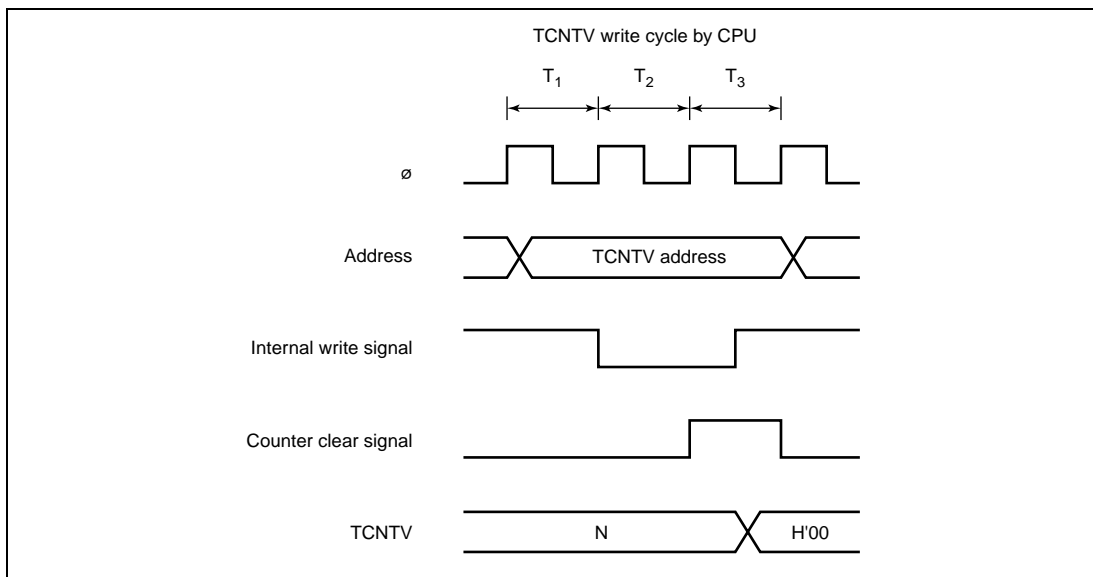

Figure 11.11 Contention between TCNTV Write and Clear
1. Writing to registers is performed in the T3 state of a TCNTV write cycle. If a TCNTV clear signal is generated in the T3 state of a TCNTV write cycle, as shown in figure 11.11, clearing takes precedence and the write to the counter is not carried out. If counting-up is generated in the T3 state of a TCNTV write cycle, writing takes precedence.